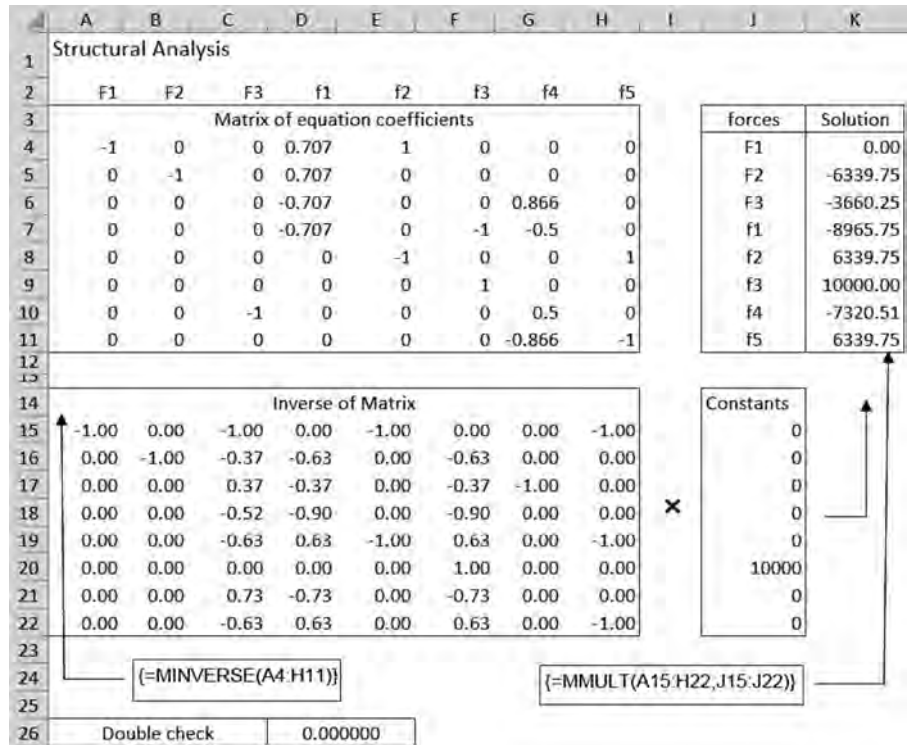

FIGURE 11.4
- On Sheet3 of Chap11.xlsx, enter the text shown in Figure 11.4. Do not bother with the explanatory text boxes.